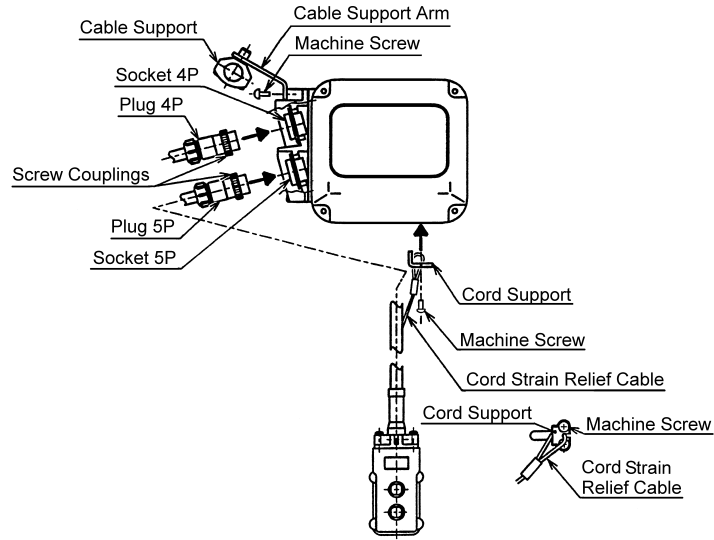

Figure 3-5 Pendant and Power Supply Cable Connections for ER080S and ER100L
- Refer to Figure 3-5 or 3-6 depending on the Product Code.
- Refer to Figure 3-5 or 3-6 depending on the product code.